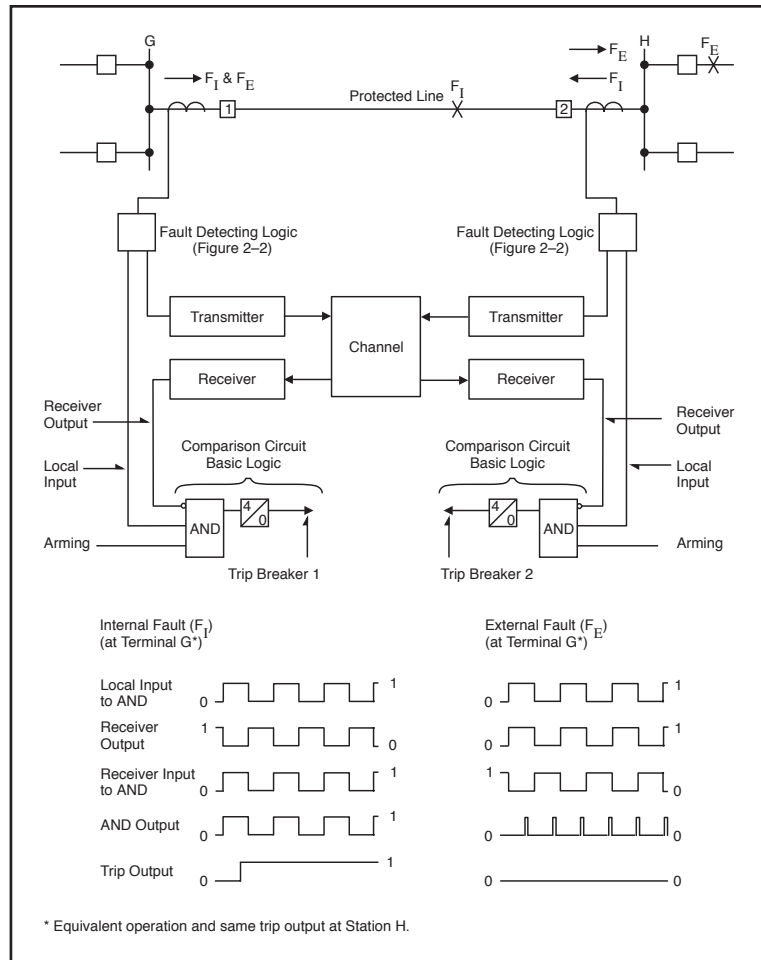

Figure 2-3.
The basic operation of the system is shown in Figure 2-3. FD1 and FD2 at both terminals operate for an internal fault (FI). The square wave inputs to the AND from the local currents are essentially in phase with those transmitted via the channel from the remote terminal. The local square wave turns the carrier “ON” and “OFF” to provide the square wave receiver output for the remote terminal.
For an external fault, such as FE in Figure 2-3, blocking is essentially continuous, since the remote wave input to the AND is out-of-phase with the local square wave. The secondary ct currents are essentially out-of-phase for an external fault. The currents can, however, be in-phase by up to 90° on a 60-Hz base and still block.